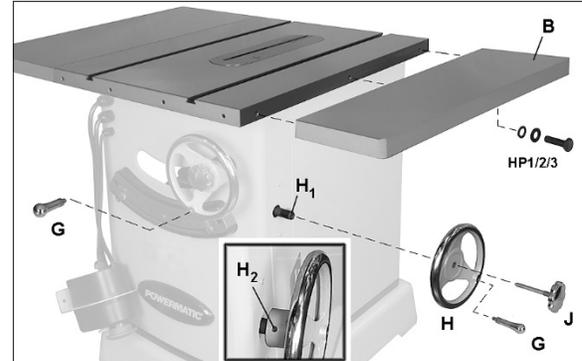

Figure 6-3: installing accessories
See Figure 6-3.
1. Remove tape from around shaft to expose threads and shaft key (H₁, Figure 6-3).
5. Install locking knob (J, Figure 6-3) and handles (G). Use wrench on flat of handles to tighten against handwheels.